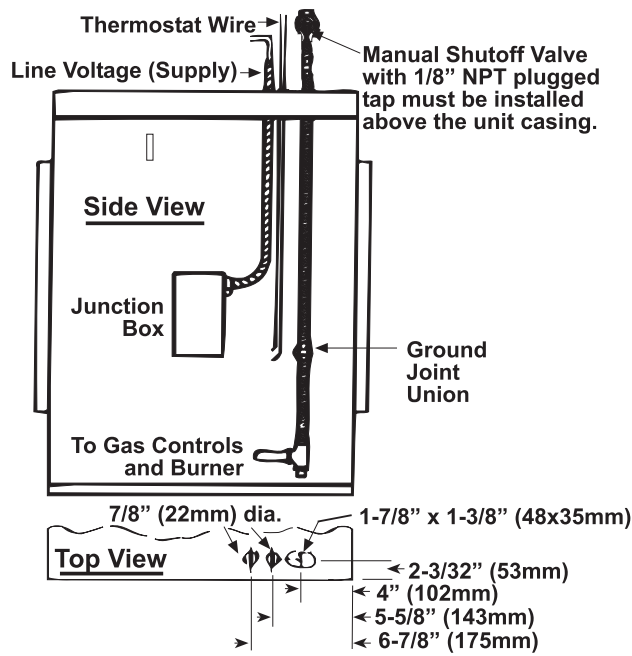

Figure 19. Electrical Connection Locations
- Electrical connection locations are shown in Figure 19.